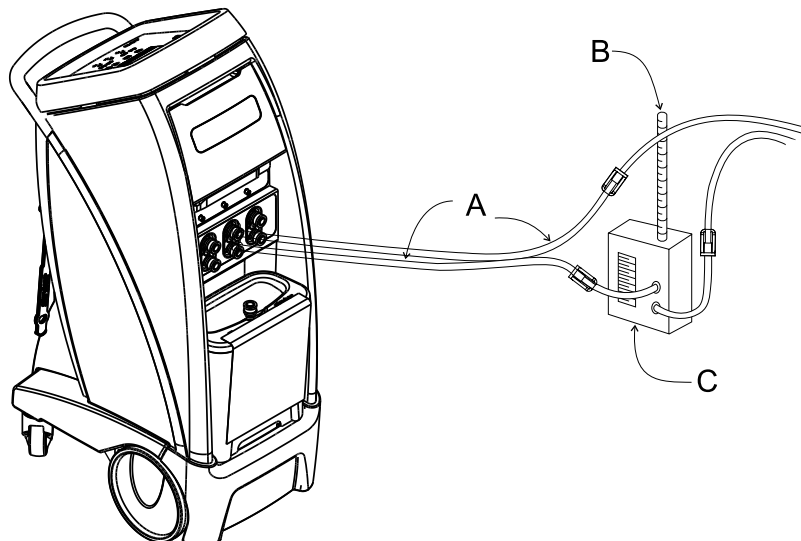
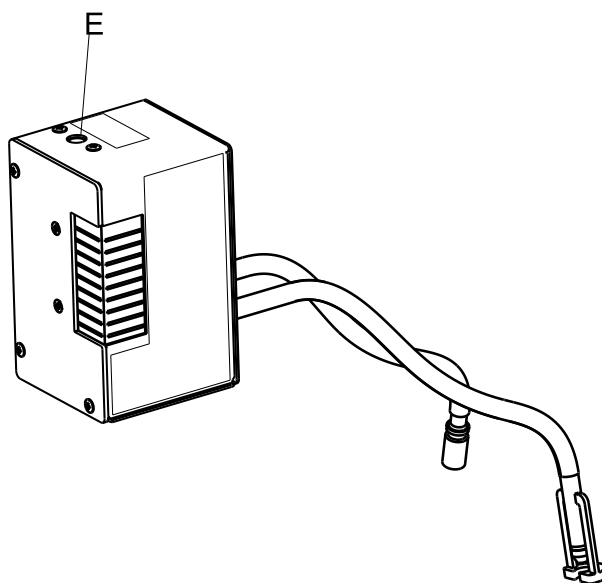

Figure 56 – Connect to controller
Figure 58 – Insert temperature probe
1. Connect two 12-inch loop back hoses (A) to ports 2 and 3 (Figure 56).
2. Connect the **Clik-Tite** hose or the colder connector hose to the adaptor hose on port 1 and to the TPT10 flow meter (C) (Figure 56).
4. Turn on the reference temperature thermometer and insert the temperature probe into (E) (Figure 58) See temperature probe (B) installed (Figure 56).